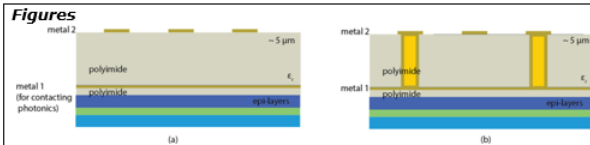

Figure 1: Desired cross section for the RF line building block. (a) Without via technology and (b) with via technology.
- The concept is illustrated in Fig. 1. A second level passivation layer using either polyimide or BCB acts as the dielectric material for the RF line building block. Via technology will be developed to connect the second level metal to the first level metal.